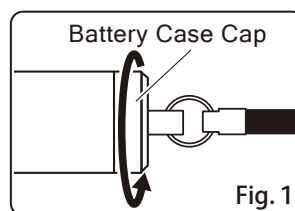

Fig. 1
- Rotate the Battery Case Cap as shown in Figure 1 to remove the old batteries.